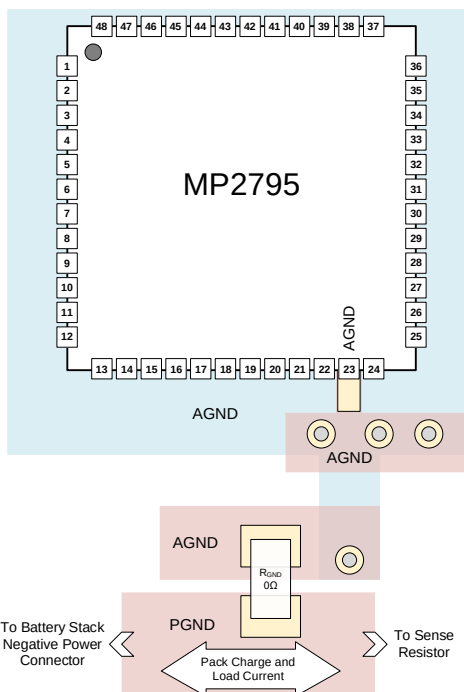
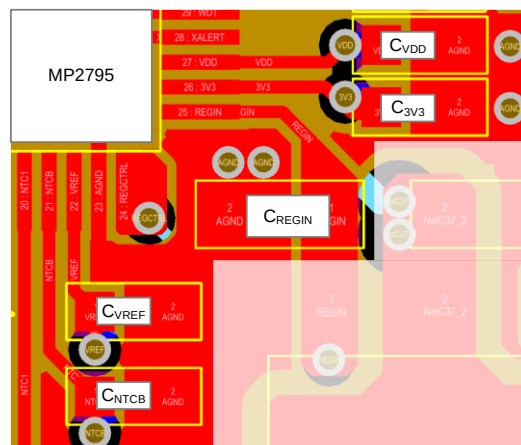
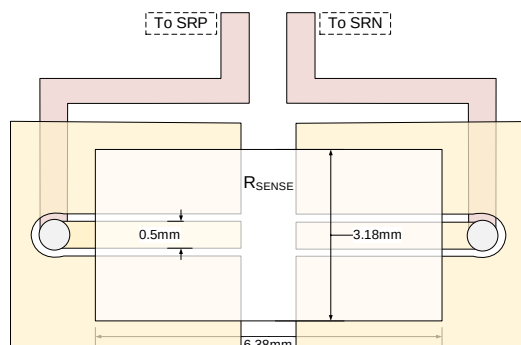

Figure 22: Recommended Layout for AGND
Figure 23: Recommended Layout for Decoupling Capacitors
Figure 24: 2512 Sense Resistor Using 4-Wire Footprint
Proper PCB layout is critical to reduce noise, and to optimize the device's accuracy and reliability. For the best results, refer to Figure 22, Figure 23, and Figure 24, and follow the guidelines below:
1. Route the ground plane to reduce ground noise and prevent stray current (see Figure 22).
to each pin. Minimize the trace inductance from these pins to AGND (see Figure 23).
7. Route the sensing signals to SRP and SRN in parallel to avoid coupling interfering signals (see Figure 24).